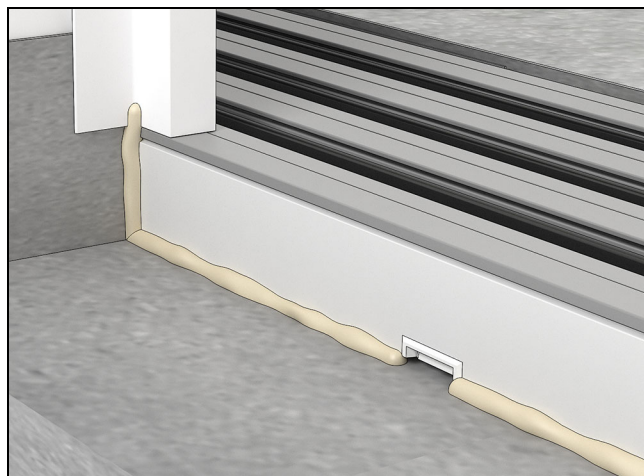

Figure 118
2. Seal the vertical end of the nosing where it meets the pocket or the jamb as well as the entire length of the nosing leaving gaps at the sill weeps. See Figure 118